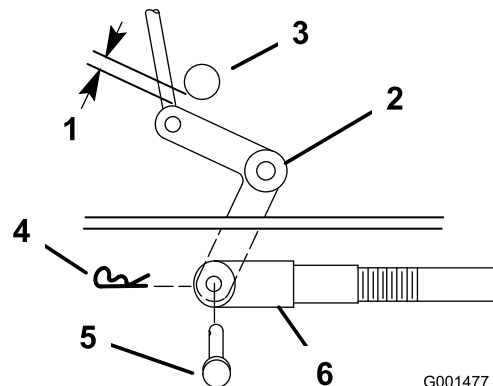
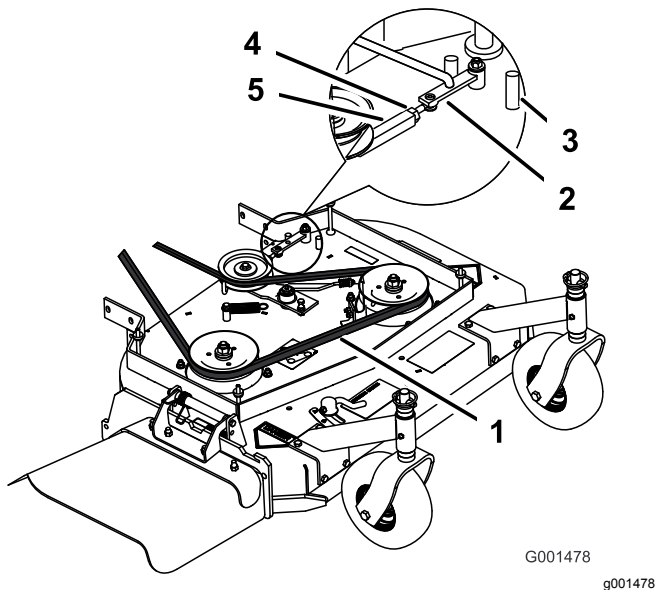

Figure 42
Figure 43
9. Check the clearance between the bell crank and transmission-output shaft (Figure 42).
10. Remove the hairpin cotter and clevis pin from the bell crank (Figure 42).
11. Rotate the clevis clockwise on the rod to increase the clearance; rotate it counterclockwise to decrease it (Figure 42).
Note: If the assist arm does not contact the front stop on the mower deck (Figure 43), adjust the clevis to bring the bell crank closer to the transmission-output shaft (Figure 42).